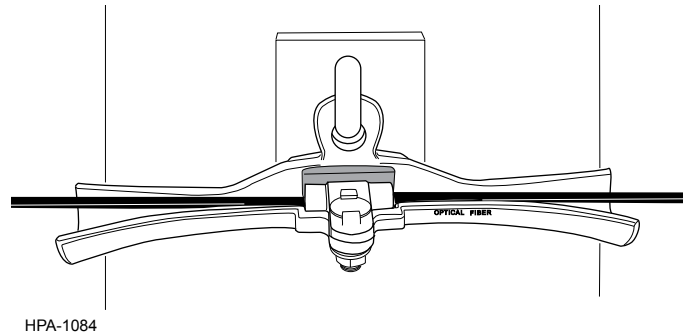

Figure 7
Step 5: Rotate clamping arm over cable (Figure 7).